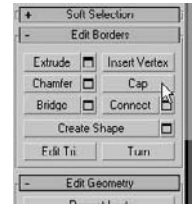

Figure 5.88
4. Go to the Edit Borders rollout and click Cap, as shown in Figure 5.88. This will create a poly where the hole was.